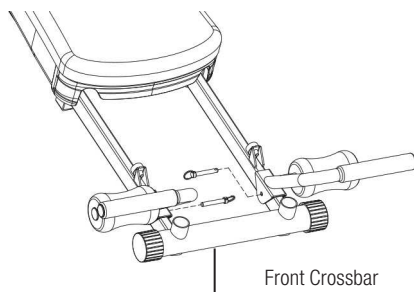

FIGURE 4
3. Insert the 2 Short Hitch Pins through the holes on the Multi Function Attachment Brackets and the hole on the Rails, as shown in Figure 4.